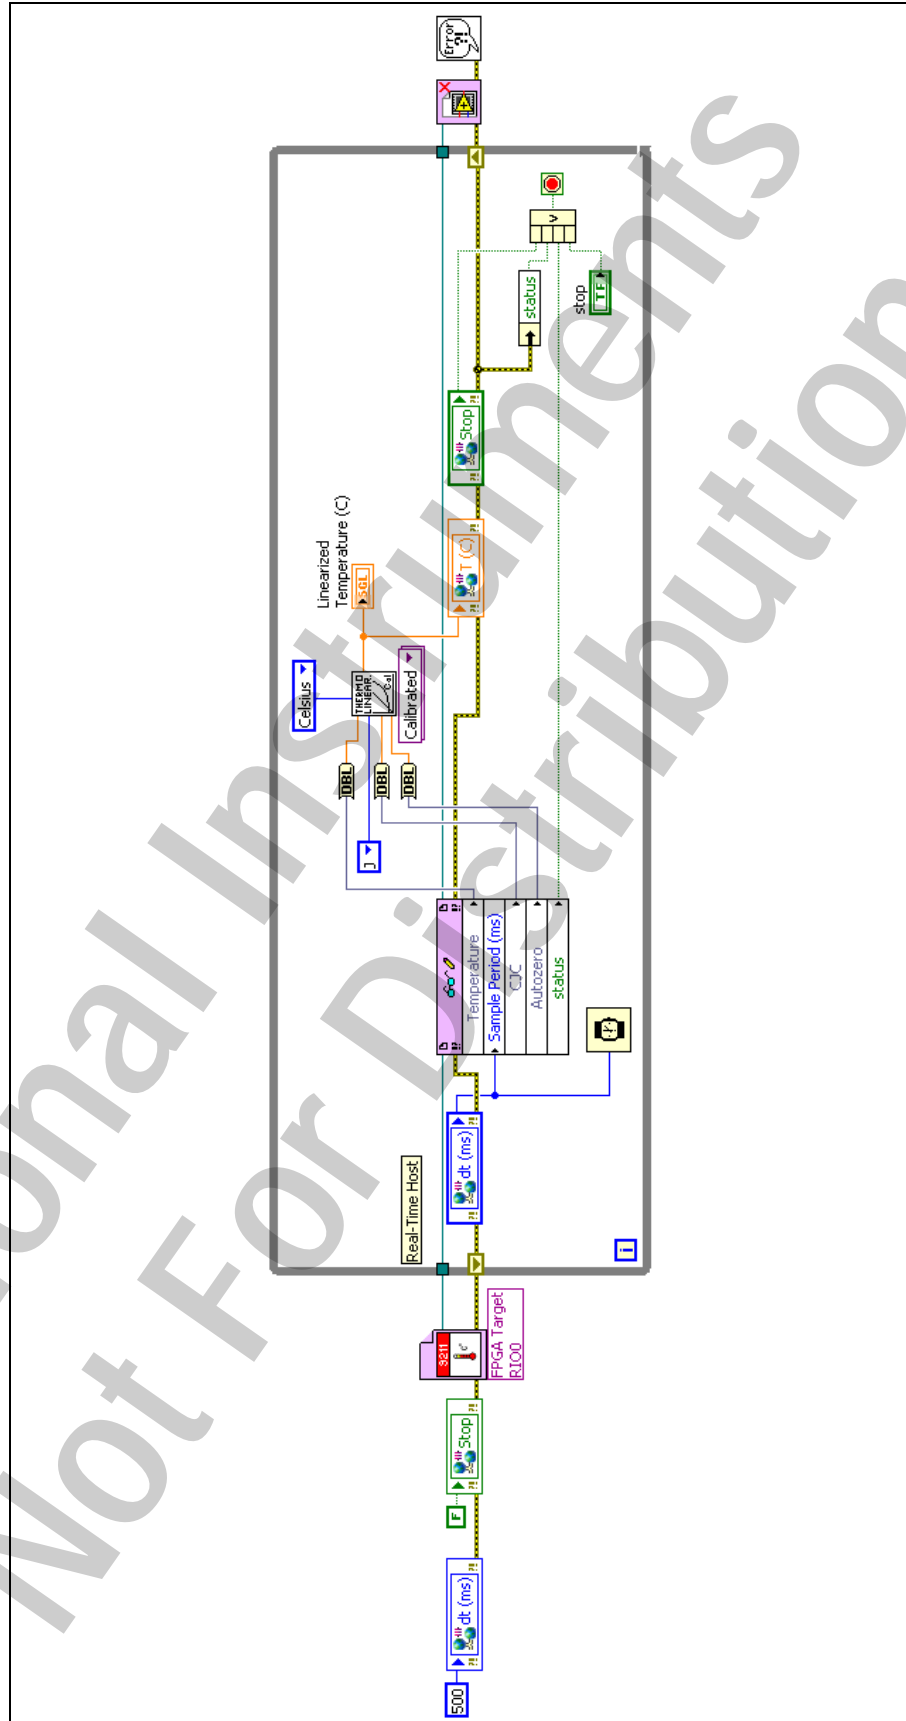

Figure 8-6. Networked Temperature Monitor RT Host VI Block Diagram
In the following steps, you build the block diagram shown in Figure 8-6:
- ☐ Wire the initialization code as shown in Figure 8-6.
- ☐ Place a copy of the T (C) shared variable after Convert to Temperature (NI 9211) VI.
- ☐ Right-click the T (C) shared variable and select **Access Mode» Change to Write**.
- ☐ Place a copy of the Stop shared variable after the T (C) shared variable.
- ☐ Wire the shared variables as shown in Figure 8-6.
- ☐ Expand the Compound Arithmetic (OR) function to four elements.
- ☐ Wire the output from the Stop shared variable to the new element, as shown in Figure 8-6.